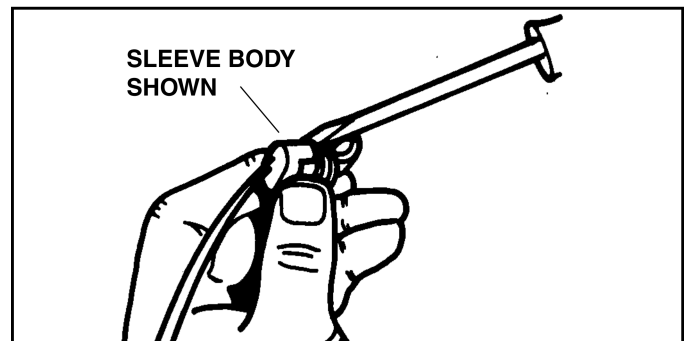

Figure 3-3
2. Remove wire retainer on sleeve body or pin body, as necessary, with a screwdriver and save for re-use (See Figure 3-3).